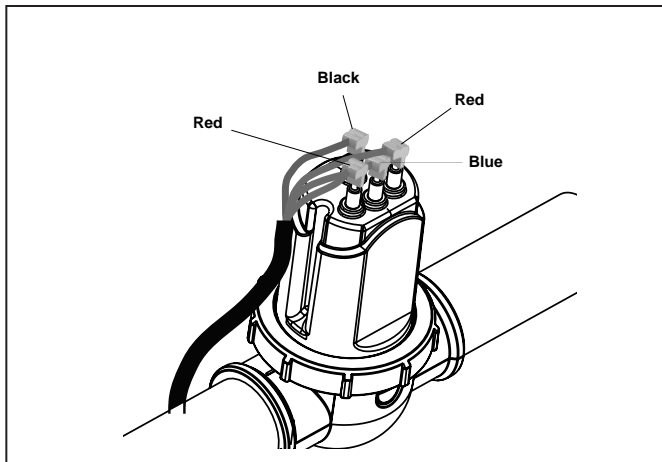

Figure 16. Connecting Cell Leads
15. Securely connect the cell leads to the like coloured terminals (see Figure 16).